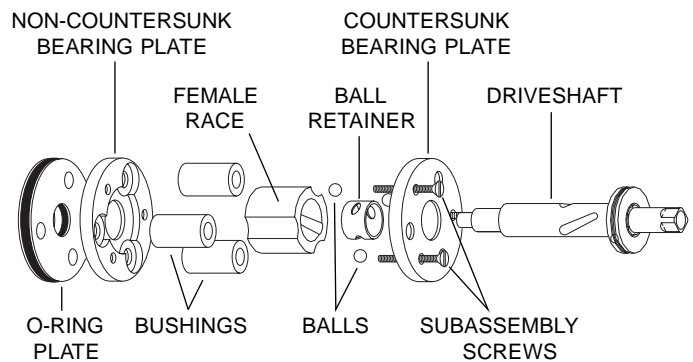

Figure 9: Subassembly parts
12. Remove the three slotted head screws which hold the subassembly together. While holding the rest of the assembly together, slide the O-ring plate off of the drive shaft assembly. **(Figure 9)**
See **Figures 9** or **11** for parts identification.
4. Put a liberal coating of DC-111 on the slots in the driveshaft, and put the driveshaft through the countersunk bearing plate as oriented in **Figure 9**.